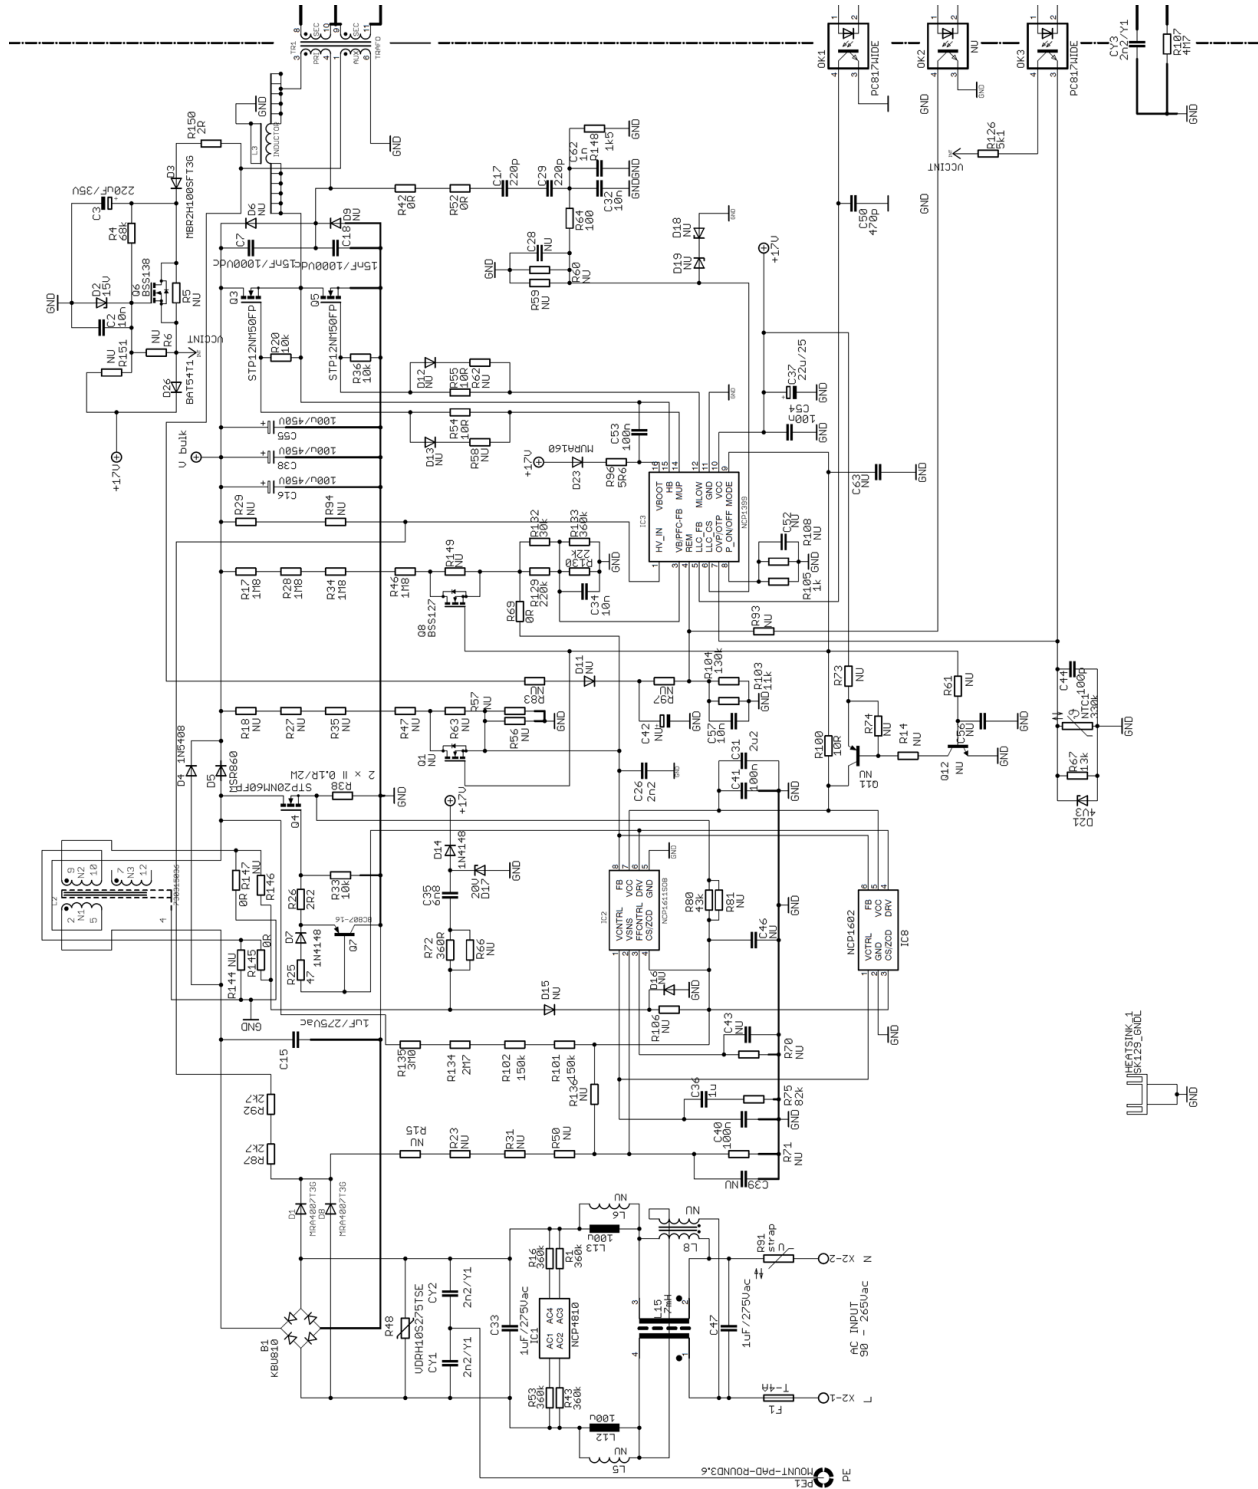

Figure 3. AOI Demo-board Schematic (Assembled and also All Other Possible Options in PCB Layout) – Primary Side
Figure 1. AOI Demo-board Schematic (Assembled Options on Standard Revision of the Demo, Refer to Figures 3 and 4 for Schematic Showing All Possible Options) – Primary Side
**Figure 2. AOI Demo-board Schematic (Assembled Options on Standard Revision of the Demo, Refer to Figures 3 and 4 for Schematic Showing All Possible Options) – Secondary Side**